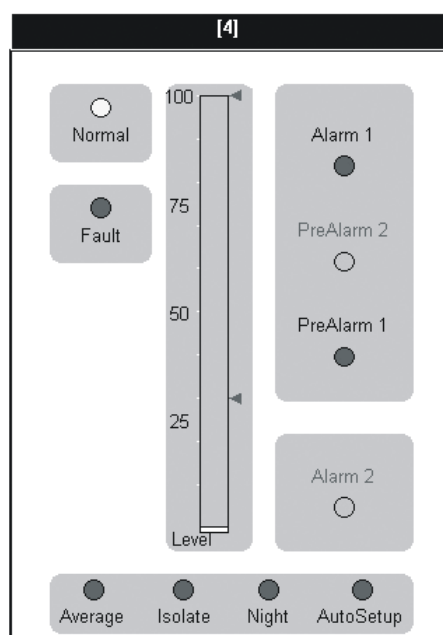

Figure 5-2. One-Zone LaserNET Display Window
- **One Detector:** A window opens displaying a graphic representation of a system monitor with a dynamic smoke-level bar graph, as shown in Figure 5-2. The owner location defined for that Detector will be displayed in this window's banner, along with the address in parentheses.